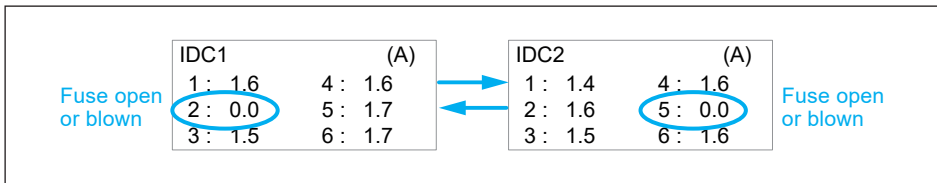

Figure 5-12: String monitor
1. Check “Power meter/string monitoring” page on the LCD display, to determine if any string current measurement is zero, which will most probably indicate a blown fuse. (**Figure 5-12**)